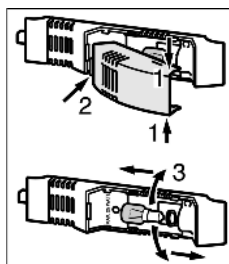

Fig. 16
- ▶ Take hold of the lamp cover at the top and bottom *Fig. 16 (1)*.
- ▶ Disengage the lamp cover at the back and detach it *Fig. 16 (2)*.
- ▶ Replace the lamp *Fig. 16 (3)*.